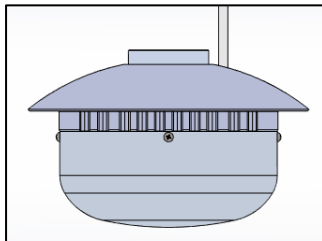

FIG. 3 - REFLECTOR
1. REFLECTOR ASSEMBLY with CORD attached. (shown in FIG. 3)